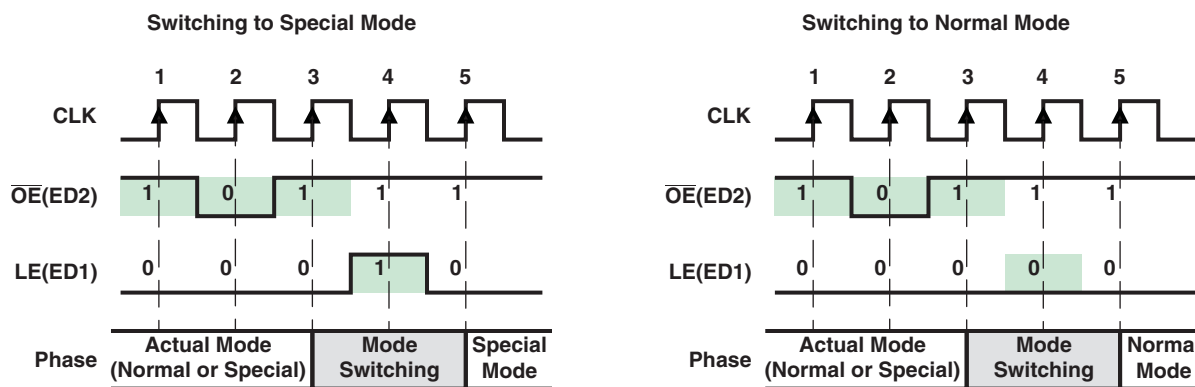

Figure 12. Mode Switching
In order to switch between its two modes, TLC5926/TLC5927 monitors the signal  $\overline{OE}(ED2)$ . When a one-clock-wide pulse of  $\overline{OE}(ED2)$  appears, TLC5926/TLC5927 enters the two-clock-period transition phase, the Mode Switching phase. After power on, the default operation mode is the Normal Mode (see Figure 12).
As shown in Figure 12, once a one-clock-wide short pulse (101) of  $\overline{OE}(ED2)$  appears, TLC5926/TLC5927 enters the Mode Switching phase. At the fourth rising edge of CLK, if LE(ED1) is sampled as voltage high, TLC5926/TLC5927 switches to Special mode; otherwise, it switches to Normal mode. The signal LE(ED1) between the third and the fifth rising edges of CLK cannot latch any data. Its level is used only to determine into which mode to switch. However, the short pulse of  $\overline{OE}(ED2)$  can still enable the output ports. During mode switching, the serial data can still be transferred through SDI and shifted out from SDO.